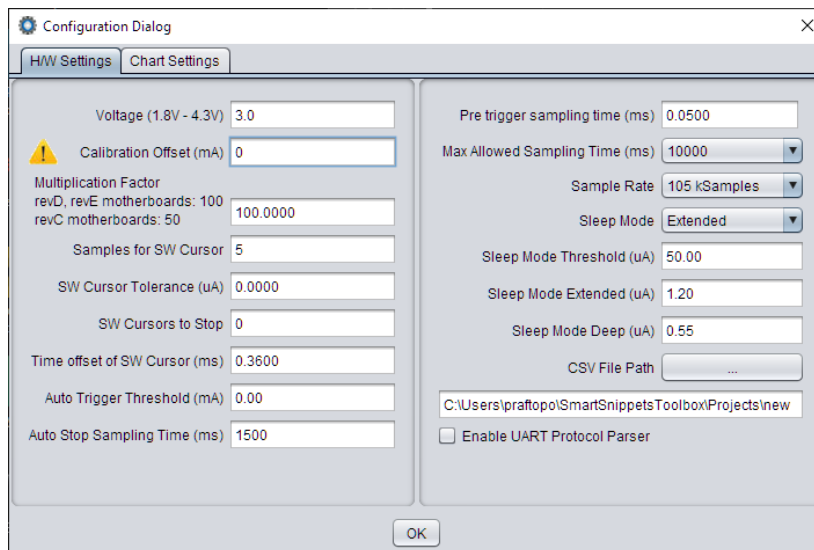

Figure 47: Setting Offset to Zero
2. In the main window of the Power Profiler, press **Config** and temporarily set the calibration offset to zero (Figure 47).